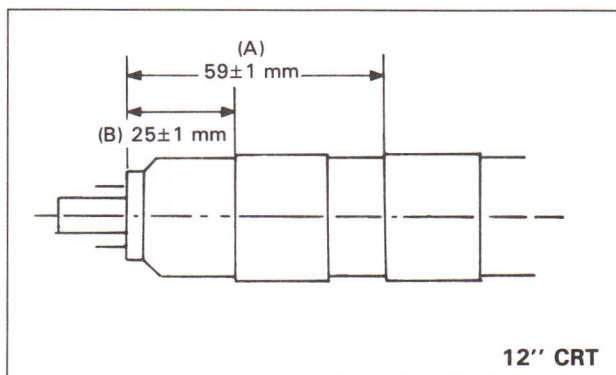

Fig. 1
2. Wind adhesive tape around two places on the neck part of the CRT. (Fig. 1)